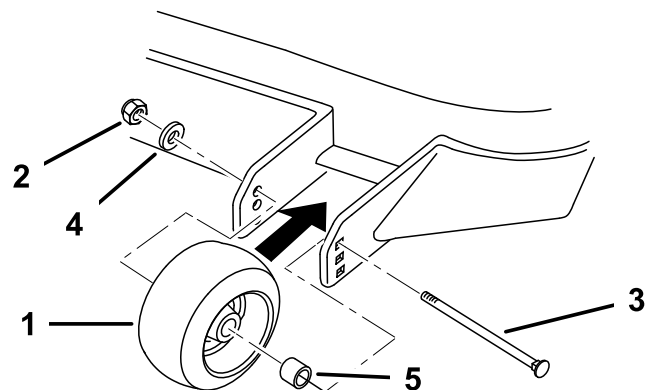
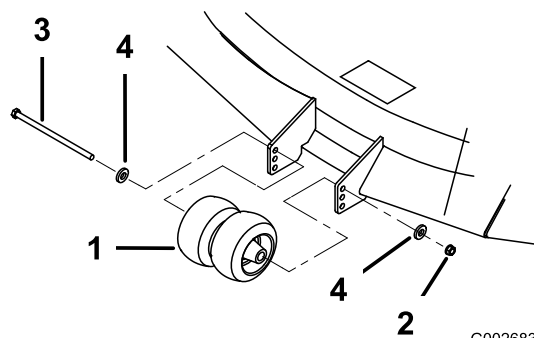

Figure 24
Figure 25
1. After adjusting height-of-cut, check the gage wheels so that there is a minimum of 3/8 inch (10 mm) clearance above the ground (Figure 24 and Figure 25).
2. If adjustment is needed, remove the bolt, washers and nut (Figure 24 and Figure 25).
3. Select a hole position so the gage wheels are a minimum of 3/8 inch (10 mm) off the ground (Figure 24 and Figure 25).
4. Install the bolt, washers and nut (Figure 24 and Figure 25).
3. Remove the lower flange bolts ($3/8 \times 1$ inch) and flange nuts securing handle to rear frame (Figure 25).